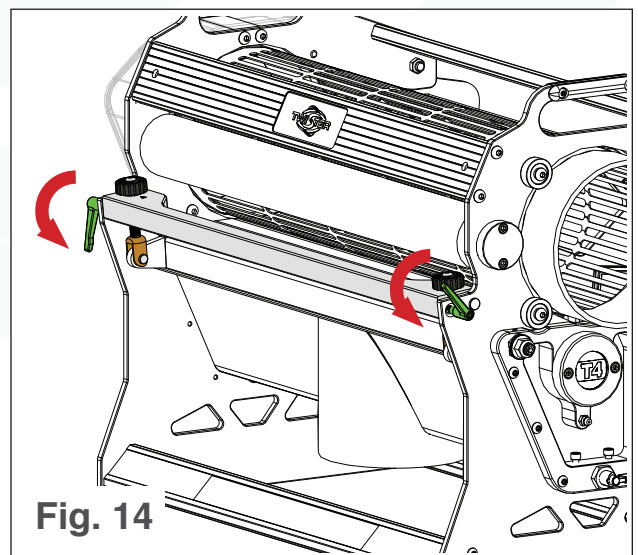

Fig. 14
1. Pull out and rotate the adjustment bar lock knobs so they are facing straight down\* (see Fig. 14). This is to prevent them breaking when the T4 is rotated.